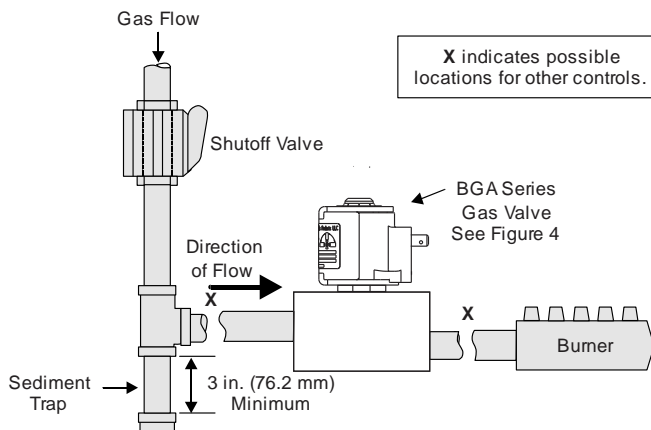

Figure 6: Typical BGA Installation
7. Installer must be a trained, experienced, flame safeguard control technician. Threads of the pipe and nipples must be smooth and free of tears and burrs. A sediment trap should also be installed in accordance with the National Fuel Gas Code NFPA 54 (see Figure 6). Mount the valve to the pipework, using a quality rated pipe tape, UL listed seal material rated for gasoline, propane, and other gases. If not available, a quality grade pipe dope, a light amount on the male threads, start two threads away from the first engaging thread. If pipe dope lodges on the valve seat, it will prevent proper closure. Remove excess compound after mounting the valve to the pipework.